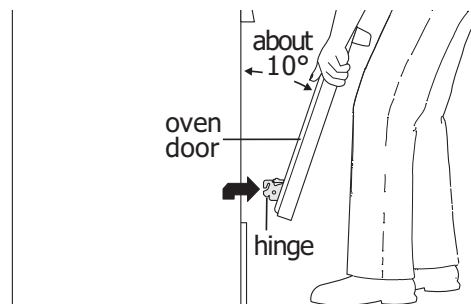
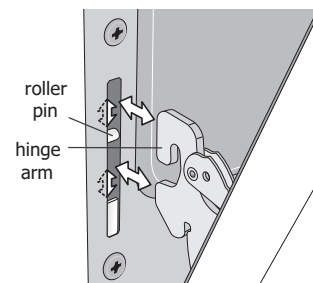

Figure 44: Holding door for removal
Figure 45: Replacement and location of hinge arm and roller pin
3. Firmly grasp both sides of oven door along the door sides. Do not use the oven door handle (See Figure 44).
4. Close the door to approximately 10 degrees from the door frame (See Figure 44).
5. Lift the oven door hinge arms over the roller pins located on each side of the oven frame (See Figure 45).
1. Firmly grasp both sides of oven door along the door sides. Do not use the oven door handle (See Figure 44).
2. Holding the oven door at the same angle as the removal position, seat the hook of the hinge arm over the roller pins located on each side of the oven door frame (See Figure 44 and Figure 45). The hook of the hinge arms must be fully seated onto the roller pins.